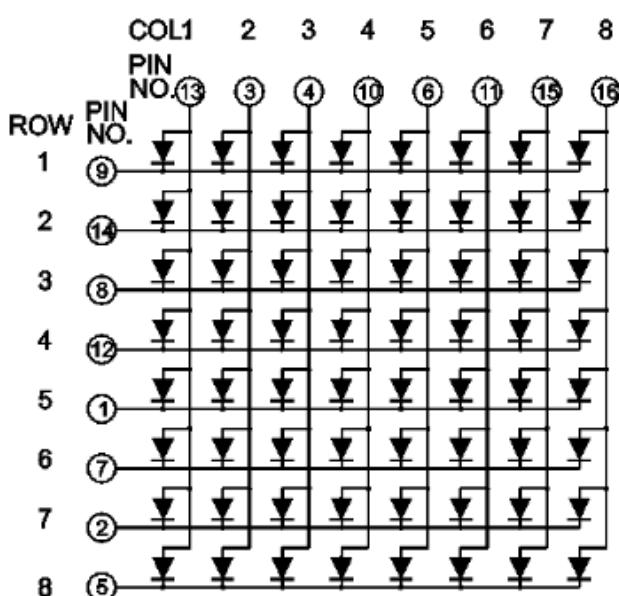

Figure 1. 8x8 LED Matrix schematic
As shown, each column is connected to the rows with LEDs. The columns must be connected to Power and the rows must be connected to Ground to illuminate the LEDs. When the circuit is completed, current flowing through the LEDs allows the LEDs to light up. As shown in Figure 1, the LED matrix to which cathodes are connected commonly is called LED matrix with common cathodes. Positive voltage (HIGH) is applied to the selected column, while the LOW level is applied to the selected row to light up a specific LEDs in this matrix. Let's take a look at how we can obtain the letters on the 8x8 LED matrix before we pass it to the Arduino program.
*Warning: Pay attention to the order of the columns in Figure 3, because it was made according to the diagram shown in Figure 1. However, in Figure 4, the order of bits is opposite to the order that is shown in Figure 3. This is because C8 has been taken as MSB and rClock as LSB.*